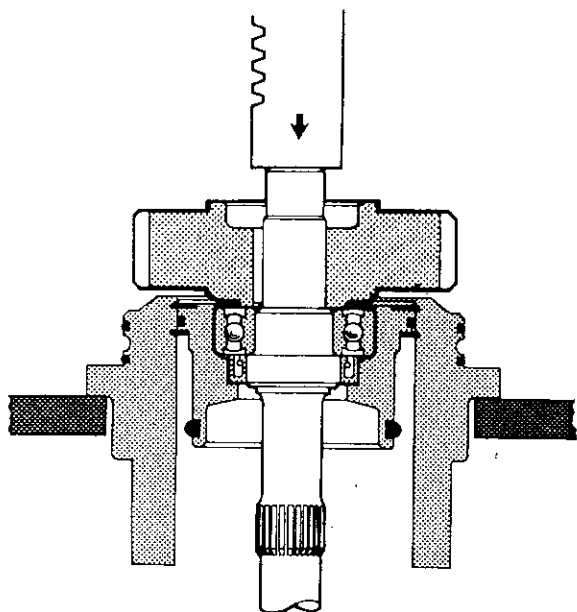

Figure 4.21
10. Place drive housing in arbor and press drive shaft (28), drive shaft bearing (10) and gear assembly (9) into bearing retainer (14). See Figure 4.21.